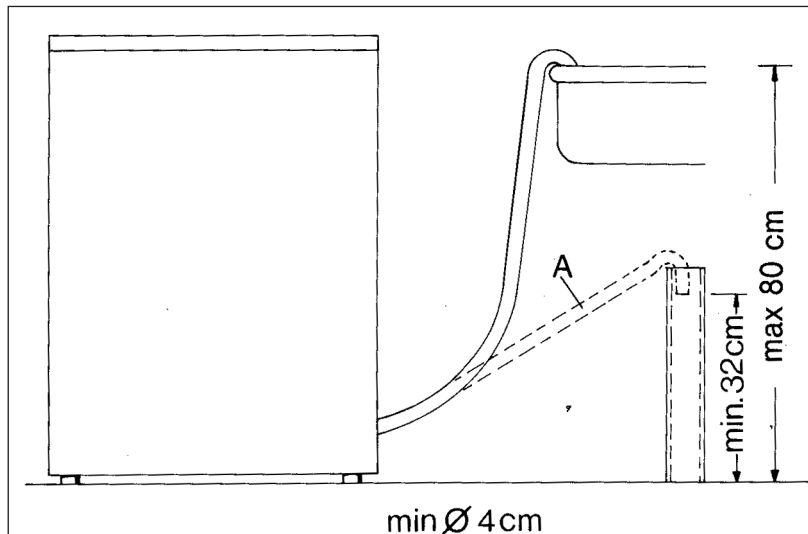

Fig. 7
The drain hose A (Fig. 7) supplied with the appliance is used with the curved end over the edge of the sink or connected to drainage.
- the end of the hose in relation to the dishwasher base (Fig. 7) must not be placed higher than 80 cm. or lower than 32 cm.;
- any extension, if used, to the drain hose, must not be more than 1 m. long and must have the same inner diameter. In addition the maximum height for placement of the free end (Fig. 7) must be 50 cm. instead of 80 cm.